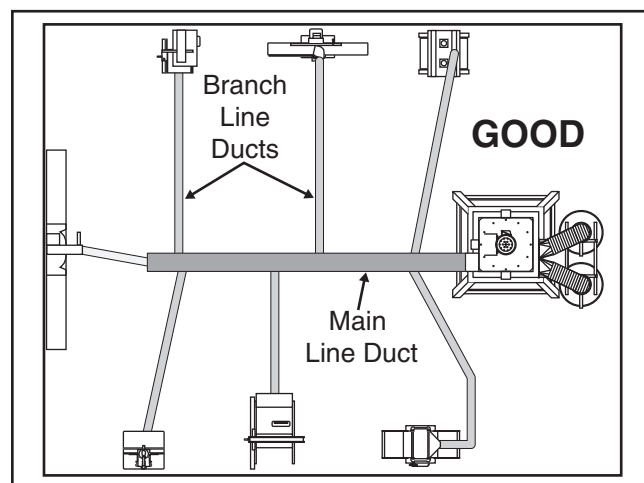

Figure 51. Good duct layout.
2. An ideal design will feature the shortest possible main line and secondary branch ducts. See **Figures 51 & 52** for ideas of good duct layouts vs bad duct layouts.